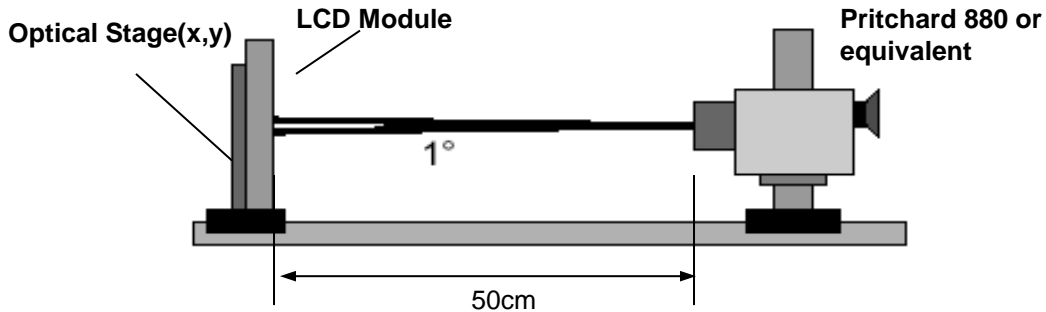

FIG. 1 Optical Characteristic Measurement Equipment and Method
Optical characteristics are determined after the unit has been 'ON' and stable in a dark environment at $25\pm 2^{\circ}\text{C}$. The values are specified at 50cm from the LCD surface at a viewing angle of Φ and θ equal to 0° . FIG. 1 shows additional information concerning the measurement equipment and method.
2. Surface luminance are determined after the unit has been 'ON' and 1 Hour after lighting the backlight in a dark environment at $25 \pm 2^\circ\text{C}$. Surface luminance is the luminance value at center 1-point across the LCD surface 50cm from the surface with all pixels displaying white. For more information see the FIG. 1.